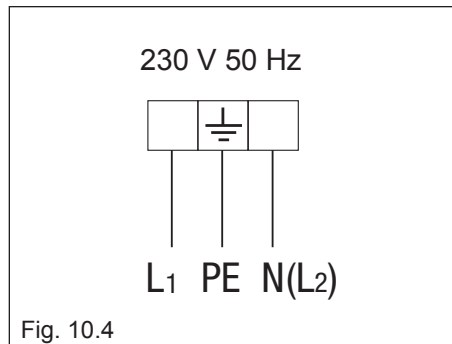

Fig. 10.4
- Connect the wires to the terminal block “B” as shown in the diagram in figure 10.4.